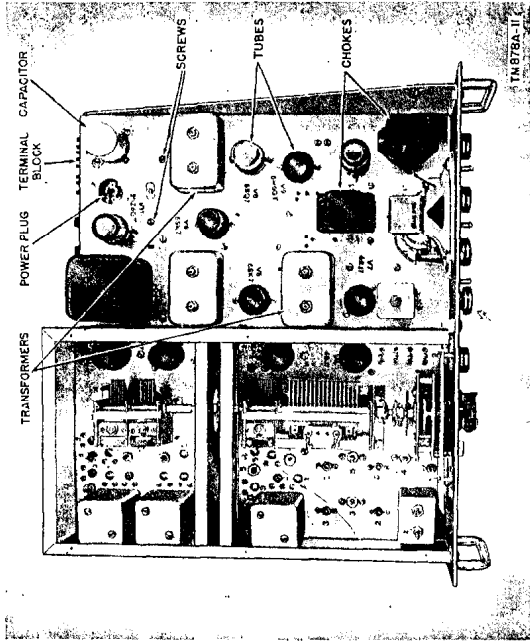

Figure 10. Radio Receiver R-96A/SR, top view showing typical PM items.
a. It is possible to connect the power plug without removing the chassis from the dust cover. This is done by inserting the female socket end of the power cord in the hole provided on the left (looking at the receiver from the rear) side of the receiver. Insert the plug through the terminal opening in the rear and connected to the male socket located in the top of the chassis. See figure 10 for the location of the power socket.
h. When crystal operation of the h-f oscillator is desired, a crystal 530 kc higher than the desired signal frequency is inserted into any of the four jacks marked XTAL 1 through XTAL 4 (figs. 10
6. Insulation (Figs. 10 and 11).